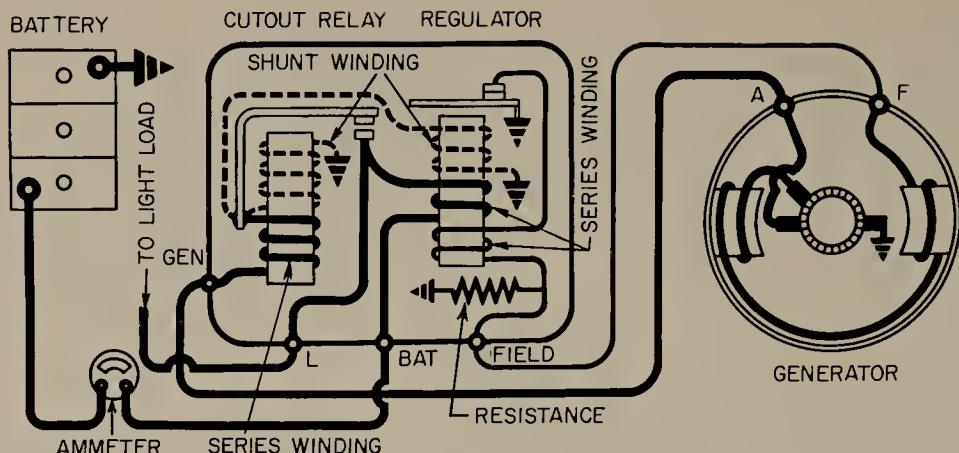

FIGURE 9.24 Wiring circuit of a combination current-voltage regulator unit and a cutout relay. (Delco-Remy Division, General Motors Corporation.)
9.11 Current-voltage Regulator. The current, as it comes from the generator, passes through the voltage regulator. The purpose of this unit is to prevent excessive generator voltage and current, and to protect the system from battery discharge through the generator when the engine is not running. There are actually three separate devices in one in the regulator. See Fig. 9.24. These are a cutout relay, a voltage regulator unit, and a current regulator unit. Let us see how they work.
the regulator down. When this happens, a resistance is connected into the generator field circuit. Trace the circuit in Fig. 9.24. Note that the field circuit is connected between the left-hand brush and the terminal marked FIELD on the regulator. When the regulator points are closed, the field circuit is connected directly through these points to ground, which is the other side of the circuit. This allows full field current to flow so that full generator output can develop. However, when the contact points are separated, the generator field circuit must go to ground through the resistance. This reduces the amount of current that can flow through the field winding, and this reduces the generator output.
9.12 Automotive-type Current-and-Voltage Regulator. In automobiles, the two regulator units—the current regulator and the voltage regulator—are separated into two actual units, as shown in Fig. 9.25. The operation is the same, but the separate units provide more accurate control of the system. This is important in the automotive-type systems because the generators used can produce a high output of many amperes of current. They therefore demand better control than the system shown in Fig. 9.24 could produce.